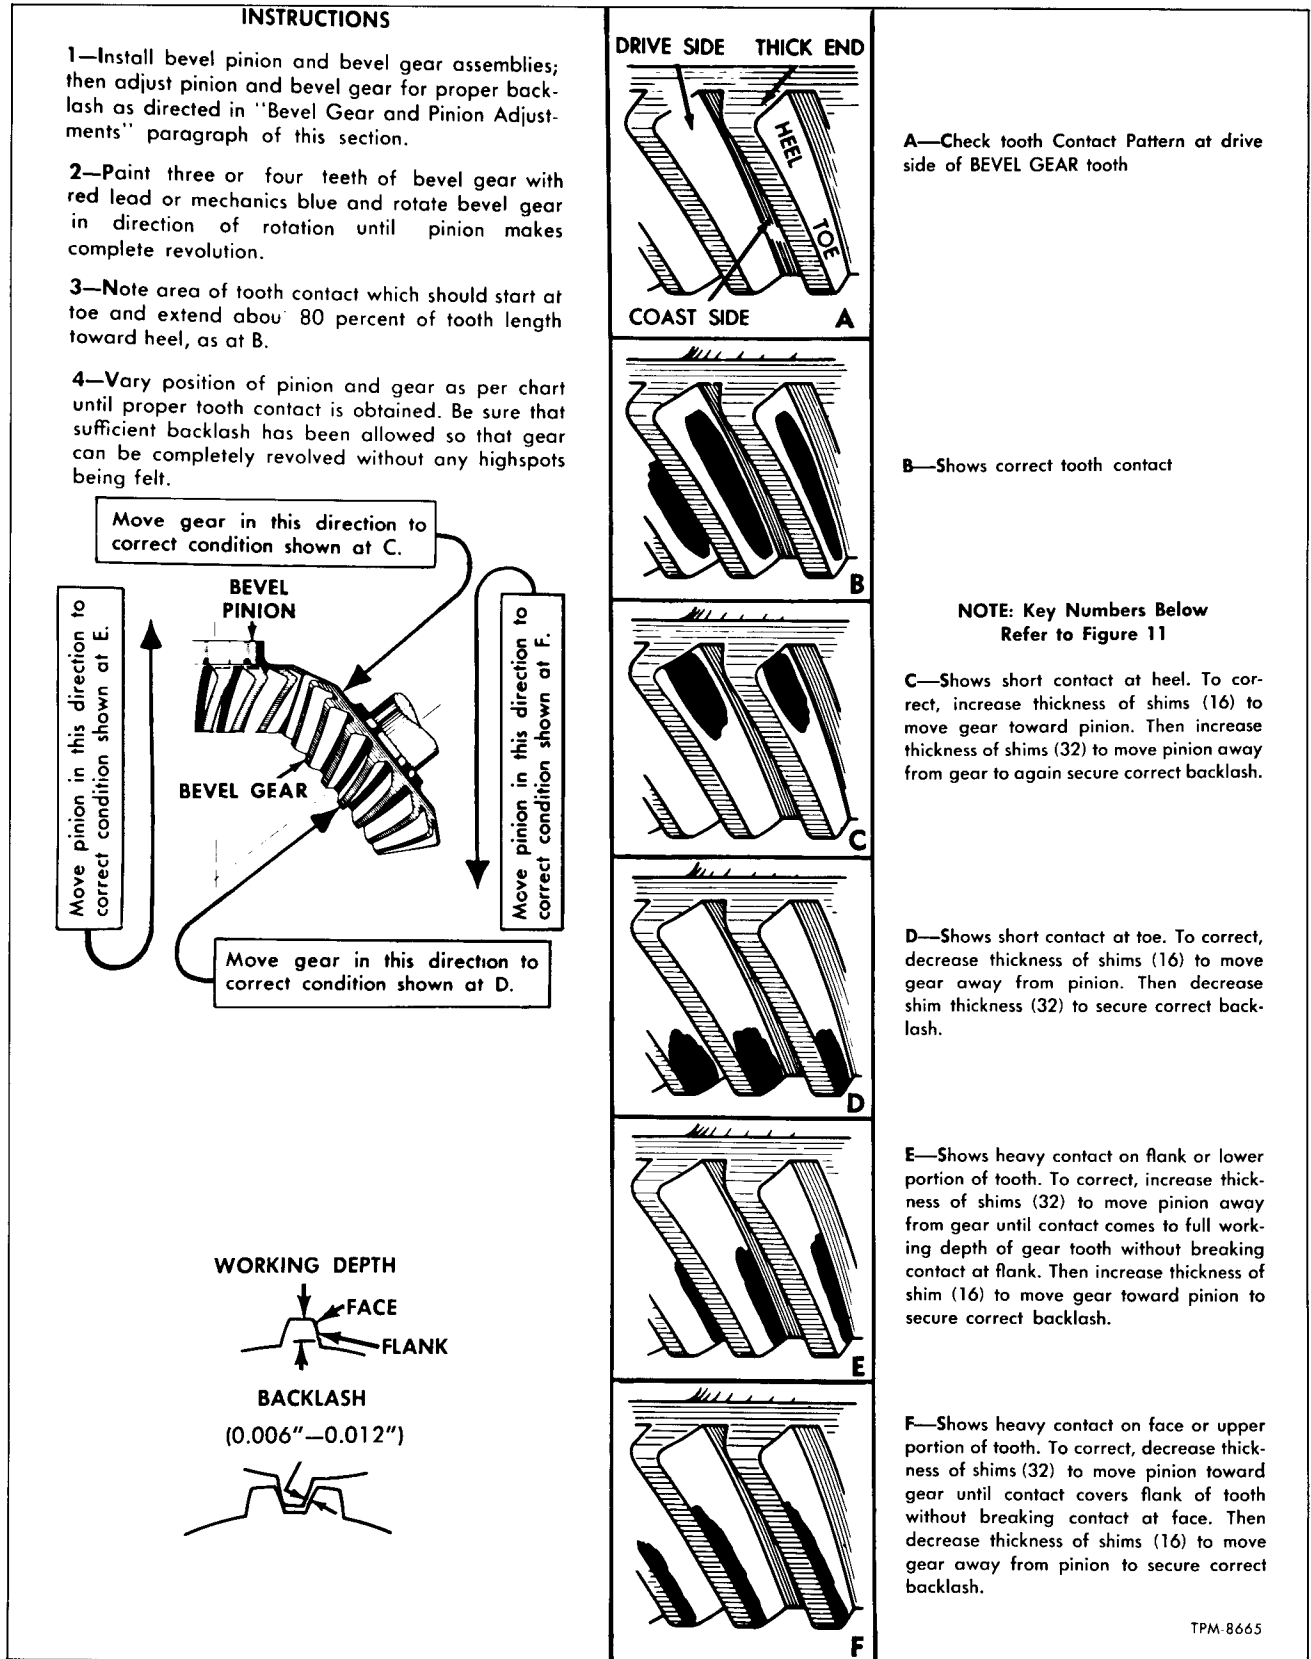

Figure 16—Gear Tooth Contact Chart
4. Check Gear Tooth Contact. NOTE: The outside shims (gaskets) in shim pack (16, fig. 11) are aluminum. These should be replaced with new parts when assembling transmission. Remove square head filler plug at top of housing above bevel gears. Use a stiff brush and apply a thin even coat of red lead on bevel gear teeth. Rotate bevel pinion shaft in same direction as in normal operation, while applying tension at propeller shaft flange. After rotating gears to produce a clear contact impression at drive side of bevel gear teeth (fig. 16), observe contact area through filler plug hole. Use flashlight to illuminate gears.
a. Tooth contact impression should start at toe of tooth and extend back about 80% of tooth length toward heel on drive side of tooth. Contact should be distributed evenly over flank of tooth indicating center of contact below pitch line. Refer to diagrams "A" and "B" in figure 16.
b. If tooth contact is short and too far out on heel of tooth (diagram "C" figure 16), increase thickness of shims (16) between bearing retainer (17) and housing (27), moving gear (12) toward pinion (1). Restore backlash by increasing shims (32) between bearing retainer (3) and housing (27).
c. If tooth contact extends back from toe appreciably less than 80% of tooth length (diagram "D" fig. 16), move gear (12) away from pinion (1) by decreasing shims (16). Restore backlash by decreasing shims (32).
d. If contact is low on flank of tooth (see diagram "E" fig. 16), move pinion (1) away from gear (12) by increasing shims (32). Restore backlash by increasing shims (16).
e. If contact is high on face of tooth (diagram "F" fig. 16), move pinion (1) toward gear (12) by decreasing shims (32). Restore backlash by decreasing shims (16).
5. After tooth contact and backlash have been adjusted, install bearing cap assembly (25) using new gasket (18). Install oil filter assembly (23) using new gasket.